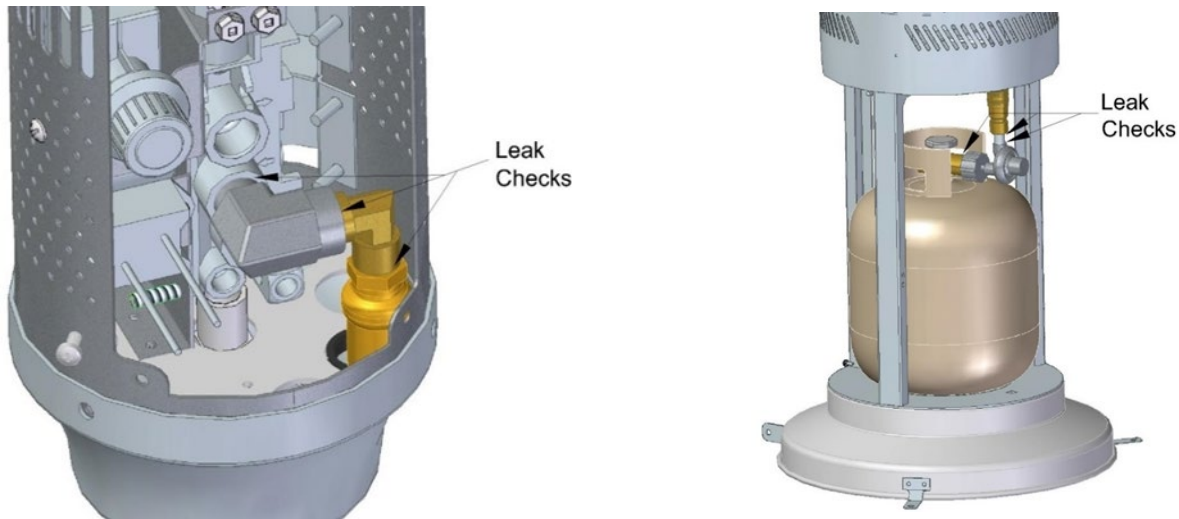

Figure 12: Leak Check Points
4. Take off the Housing Service Cover (see Figure 12). Check the gas line attachment points to the valve.
7. Repeat steps 1, 2, and 3 until no leaks are detected at all hose connection locations as shown in Figure 12.